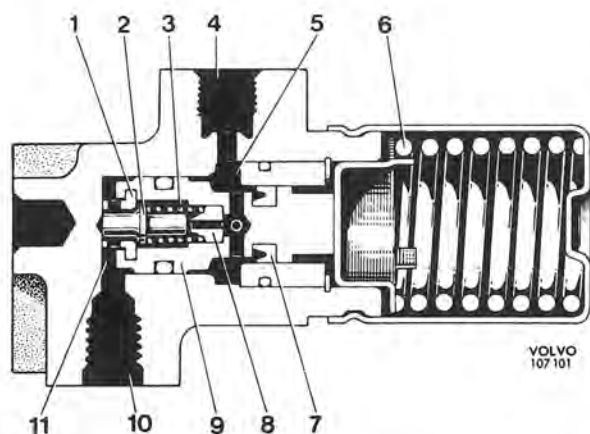
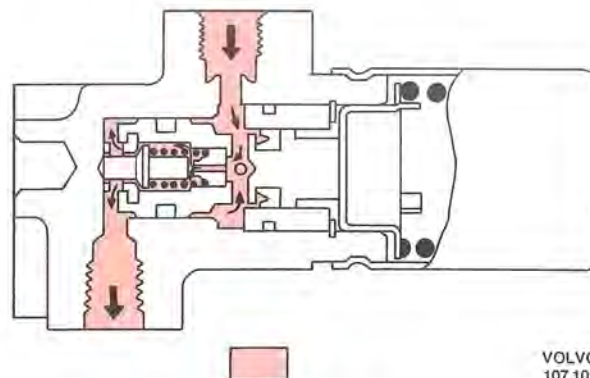

Fig. 5-41. Brake valve design
Fig. 5-42. Brake application
A brake valve is connected to each of the rear wheel brake lines, see Fig. 5-6. When the ingoing brake pressure exceeds  $34 \text{ kp/cm}^2$  ( $484 \text{ psi}$ ) a reduction takes place in the valve. The more powerful the pedal pressure, the greater will be the reduction and thereby the larger the difference between the hydraulic pressure in the front wheel and rear wheel cylinders. This results in a suitable distribution of braking force between both pairs of wheels. The construction of the brake valve is shown in Fig. 5-41 and its function is the following.
When the footbrake is applied, the pressure from the master cylinder is transmitted via the connection (4, Fig. 5-41). The pressure then proceeds through the cylinder (5), the counterbore, past the valves (8) and (2) to cylinder (11) and then on through connection (10) to the rear wheel cylinders, see Fig. 5-42. The hydraulic pressure per unit surface is equal on the different parts of the piston (9), but since its pressure surface is larger in cylinder (11) than in cylinder (5), the force developed will move the piston to the right of the figure. However, this is counteracted by the pressure from the springs (6).
and front wheel cylinders, the hydraulic force in cylinder (5) moves the piston to the left so that the valve rod comes up against its stop and opens the valve this causing the pressure in cylinder (11) to increase. Due to the larger pressure surface in this cylinder, the piston is moved to the right again and the valve closes. In this way, the piston assumes a position of balance and the outgoing pressure from the brake valve will be lower than the ingoing pressure, see Fig. 5-42. The difference in these pressures is determined by the different areas and spring tension.
When the brake pedal is released, the pressure in the cylinder (4) falls. The piston (9) is moved to the right by spring (6). When the pressure on the right-hand side of the valve (2) falls so much that the hydraulic pressure on the left-hand side enables the valves to be actuated, the connection between both the cylinders is opened again. As the pressure falls, spring (6) presses the left piston back to its original position where the valve is held in the open position by mechanical means, see Fig. 5-41. The equalizing valve (8) is fitted with control channels which ensure an even flow of pressure through the valve.